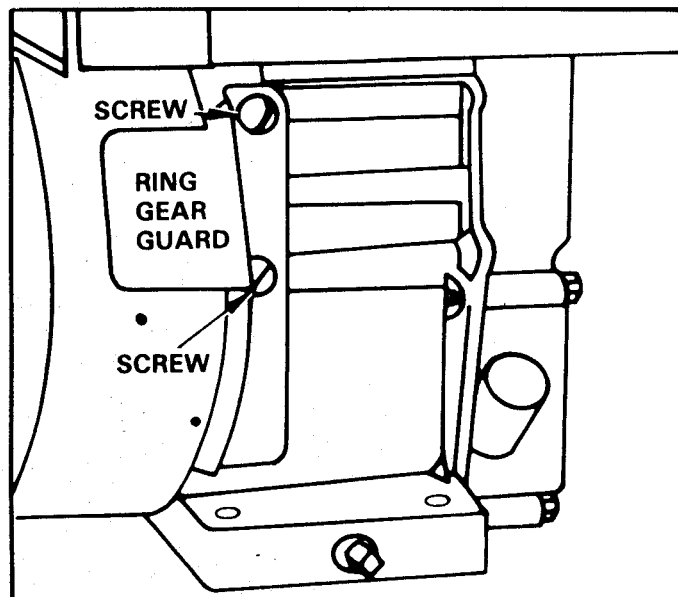

FIGURE 54
1. Remove 2 screws holding ring gear guard to engine cylinder. Discard guard and screws. See Figure 54. **DO NOT RE-USE ROUND-HEAD SCREWS WHICH ORIGINALLY HELD THE GUARD.**